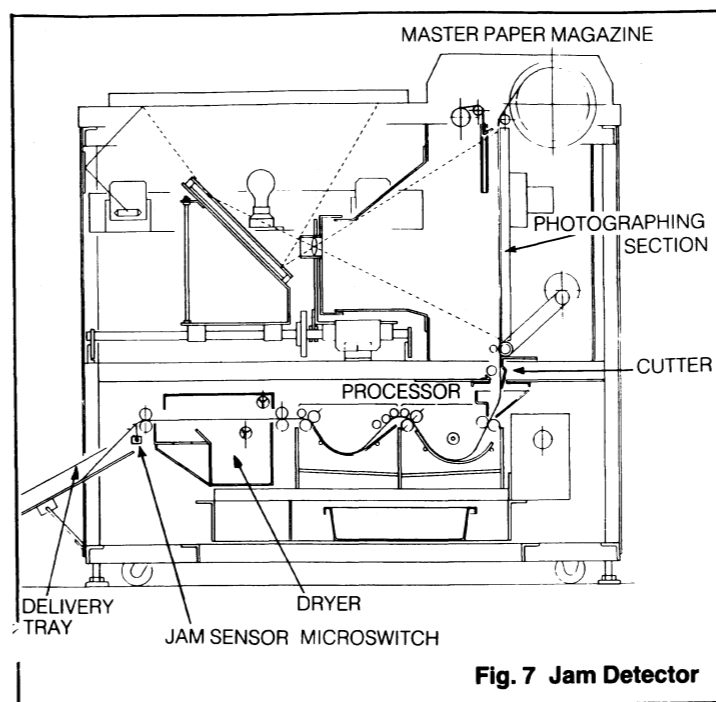

Fig. 7 Jam Detector
- This buzzer, as a jam warning, is designed to sound when the jam sensor micro-switch (see Fig. 7) does not touch the master paper within 54~64 seconds after the cutter returns to its original position.
- ① MASTER PAPER MAGAZINE
- ② PHOTOGRAPHING SECTION
- ③ CUTTER
- ④ PROCESSOR
- ⑤ DRYER
- ⑥ DELIVERY TRAY